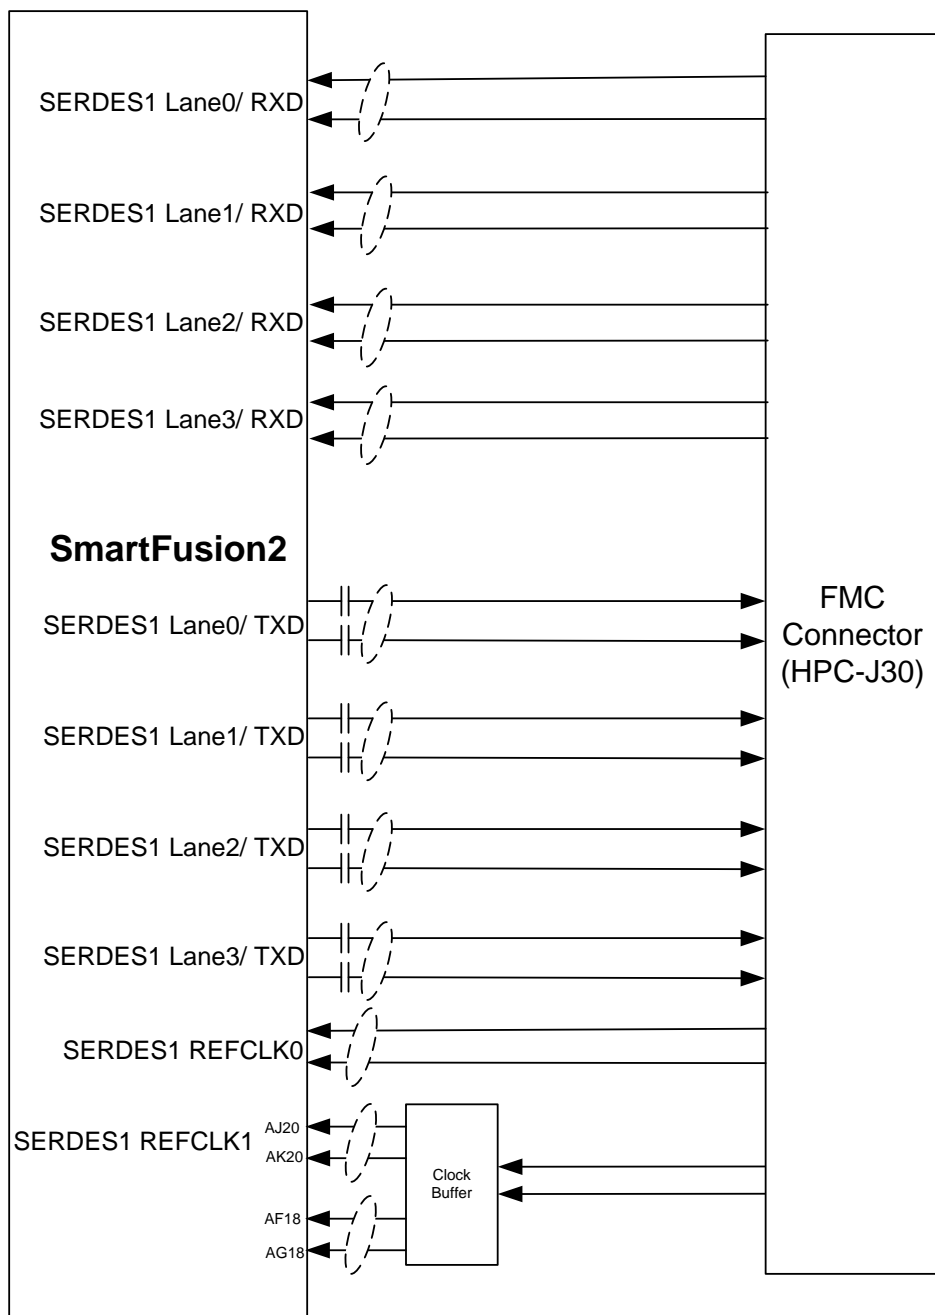

Figure 8 - SERDES1 Interface
- SERDES1 reference clock 1 is routed from the FMC connector through the Clock buffer. The output of the clock buffer is additionally routed to the SmartFusion2 Advanced Development Kit board pins - AF18 and AG18. Refer to Figure 8.